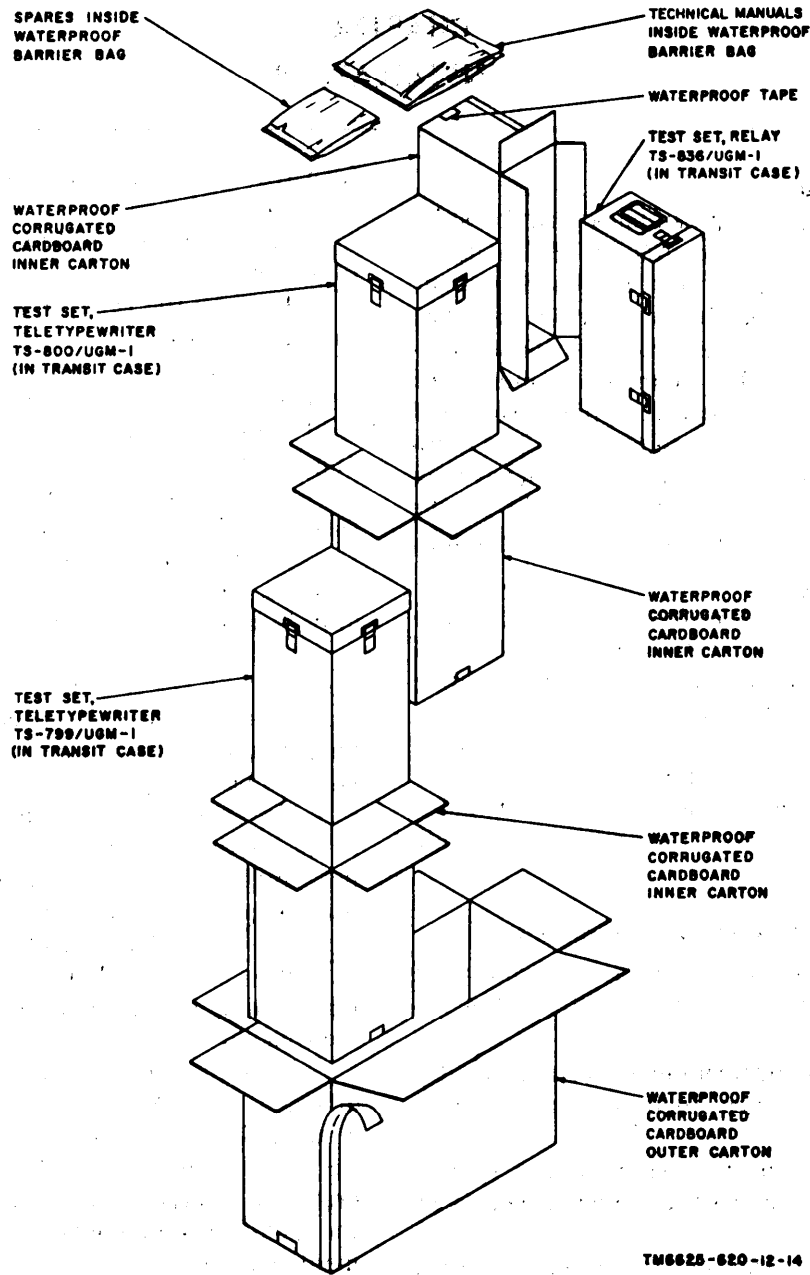

Figure 2-1. Typical packing diagram for the AN/UGM-1.
*a. Packaging Data.* When packaged for shipment, each unit of the AN/UGM-1 (in its transit case) is placed in a cardboard carton. Each individual cardboard carton is then packed in an outer waterproof cardboard carton, together with the technical manuals and running spares. A typical shipping carton and its contents are shown in figure 2-1. The shipping carton is 11 inches wide by 27 inches long by 21½ inches high. The total weight of the shipping carton and its contents is 86 pounds.
(1) Open the waterproof corrugated cardboard outer carton, and remove the waterproof barrier bags and the three waterproof corrugated cardboard inner cartons.
(2) Open the barrier bags, and remove the spares and technical manuals.
(3) Open each waterproof corrugated cardboard inner carton, and remove the individual unit.